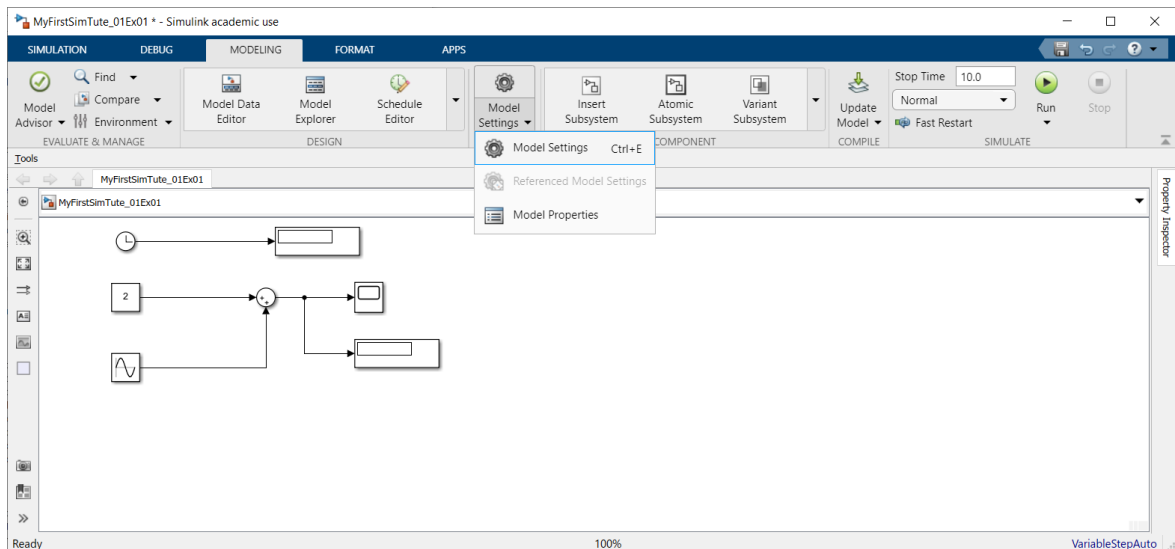

Figure 13 Simulation tab > Step Back > Configure simulation stepping
- Before running the Simulink model, we need to set simulation parameters by selecting the Modelling Tab > Model Settings > Model Settings (see **Fig. 13**).